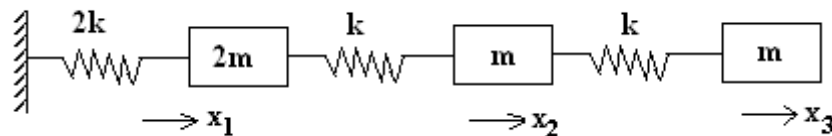

Figure 2b
- (b) Determine the stiffness matrix for the system shown in figure 2b [6+10]